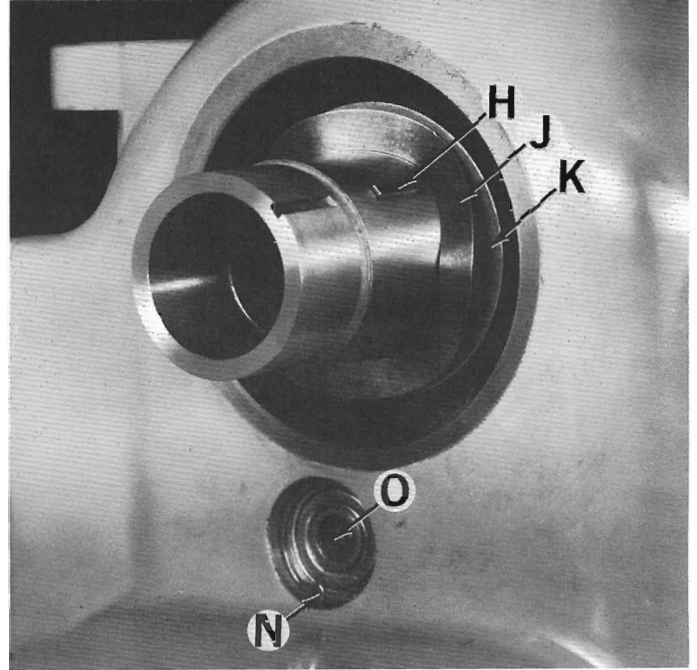
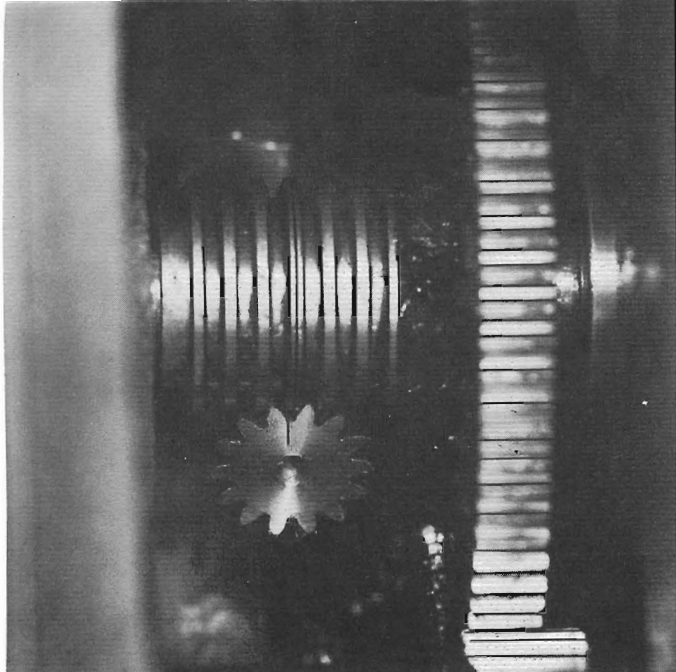

Figure 15 — Handwheel Washers and Key
Figure 21 — Timing Marks for Pinion and Worm
- (D). Remove key "H", Figure 15, and washers "J" and "K".
- (F). Remove snap ring "N", Figure 15.
- 15. Back off push screw "O", Figure 15. Replace idler gear shaft and bearing, Figure 17. (Match timing marks on gear and worm, Figure 21.) Replace snap ring "N", Figure 15.
3. Remove key "H", Figure 15, and washers "J" and "K".